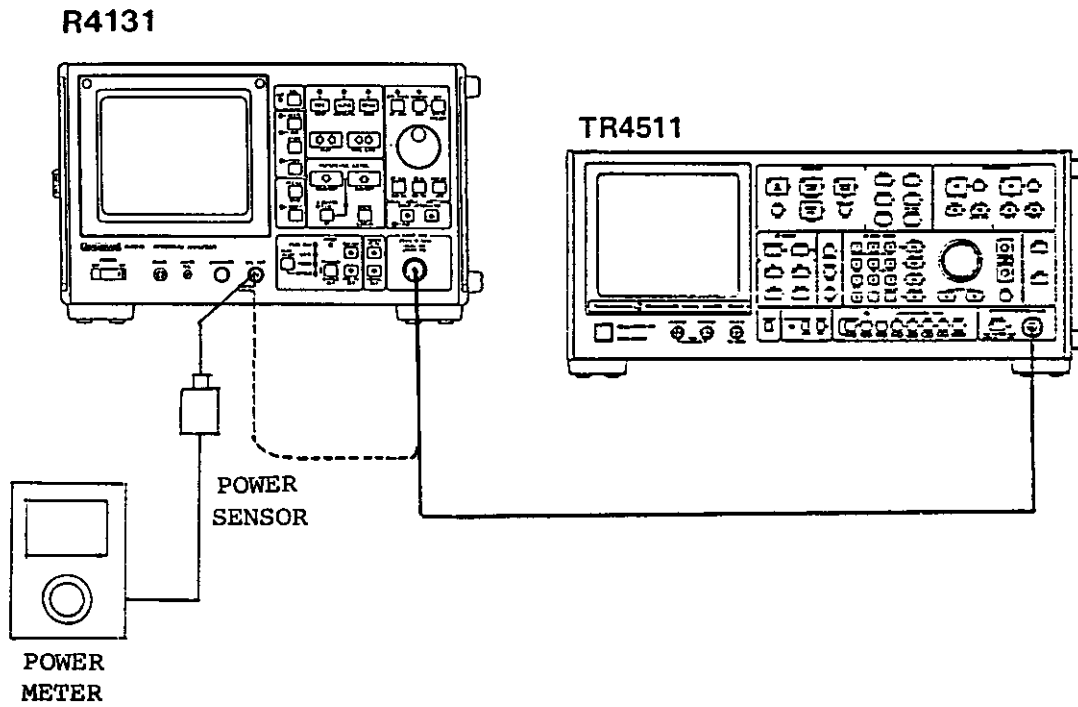

Figure 11-25 Calibrated Output Accuracy Test Setup
- ① Press the R4131 ZERO CAL switch.
- ② Set the synthesized signal source to 200 MHz, -30 dBm.
- ③ Connect the synthesized signal source to the spectrum analyzer INPUT connector. Set the span to 100 kHz while turning the TUNING dial to position the 200 MHz signal in the center of the display screen.
- ④ Next, connect the CAL signal to INPUT connector. (See Figure 11-25) Check that the center frequency is 200 MHz  $\pm$ 30 kHz, or less.